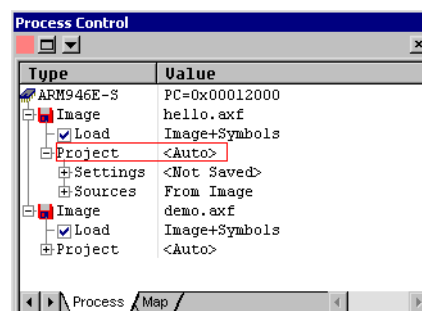

Figure 3-7 Multiple images in the Process Control pane
4. Expand the display to see the process details, shown in Figure 3-7.